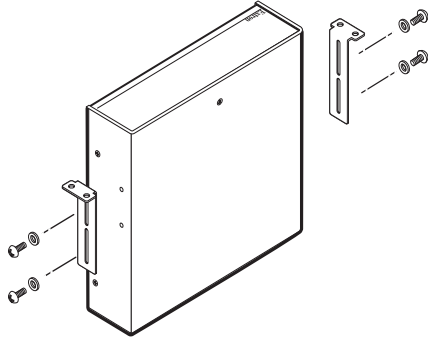

Figure 2-8 — Attaching the through desk brackets
1. Attach the mounting brackets to the interface using four machine screws and washers (supplied with the mounting kit), as indicated in figure 2-8.